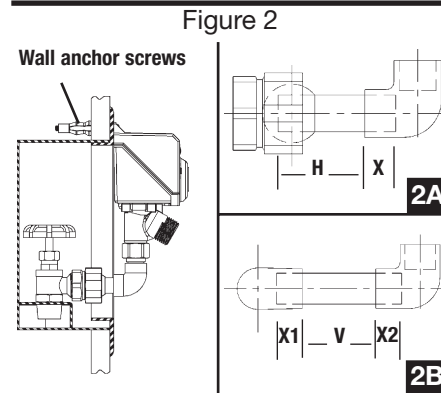

Figure 2
5. Insert the wall anchors into the wall. Insert the wall anchor screws into the support tabs on the top of the A2C-M1 and tighten the wall anchor screws (Figure 2).